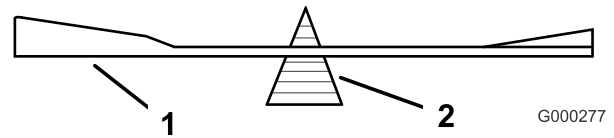

Figure 51
2. Check the balance of the blade by putting it on a blade balancer (Figure 51). If the blade stays in a horizontal position, the blade is balanced and can be used. If the blade is not balanced, file some metal off